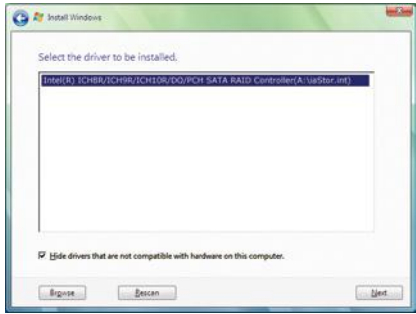

Figure 7
When a screen as shown in Figure 7 appears, select **Intel(R) ICH8R/ICH9R/ICH10R/DO/PCH SATA RAID Controller(A:\iaStor.inf)** and click **Next**.